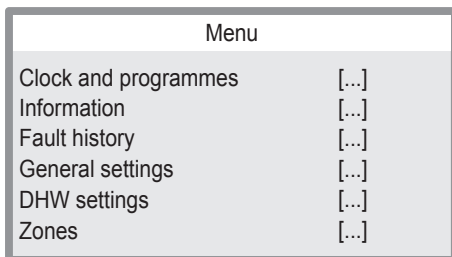

Figure 9.5
- 14 Press button "D" (Figure 9.4) to go to the main menu (Figure 9.5).